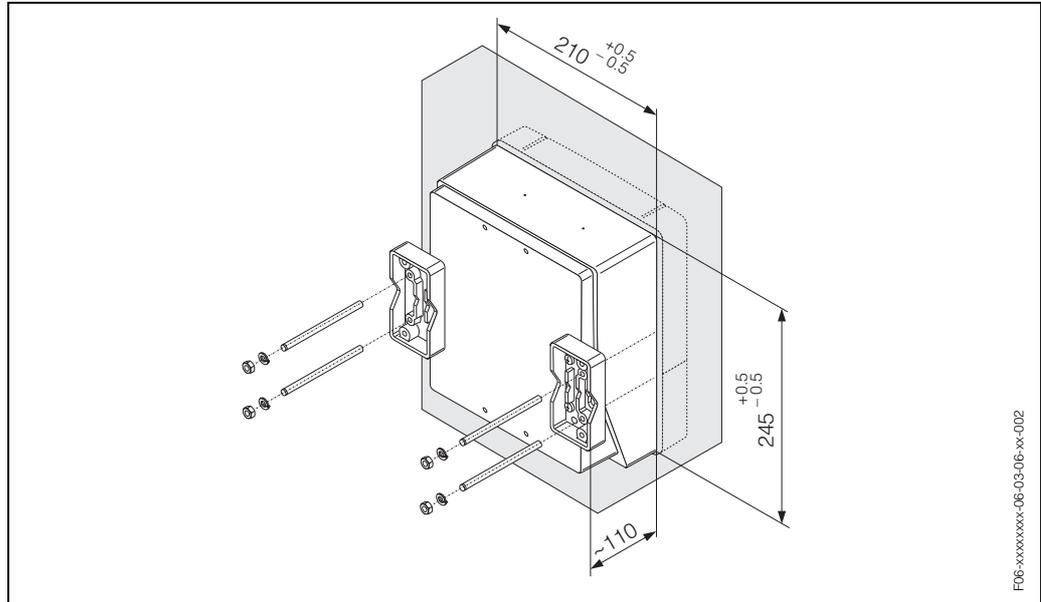

Fig. 24: Panel Installation (wall-mount housing)
1. Prepare the opening in the panel (Fig. 24).